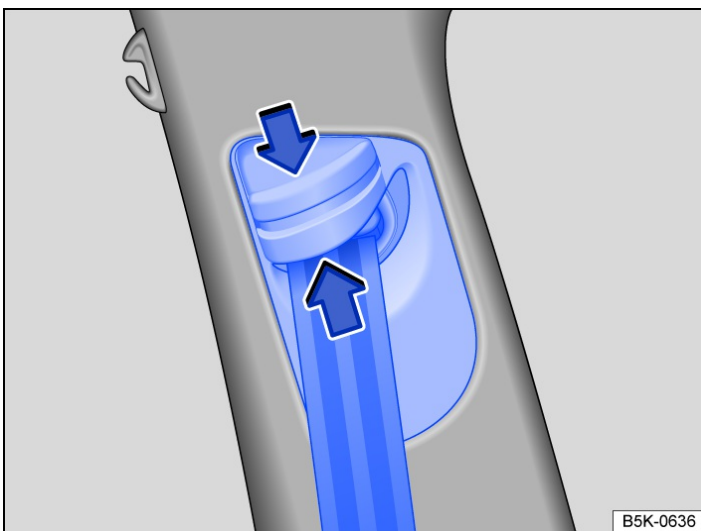

Fig. 1 Next to the front seats: belt height adjuster.
- Push the shoulder belt guide together in the direction of the arrows and hold → *Fig. 1*.